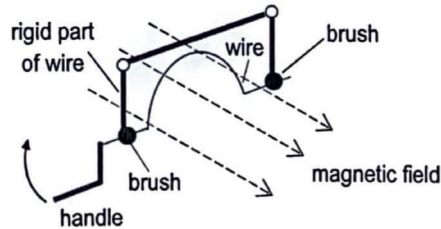

Fig.10
- C1.** A rigid wire, firmly supported, is in contact with another wire that is bent into a semi-circle of radius 0.20 m. The semi-circular portion may be rotated with a handle, as shown in Fig.10.